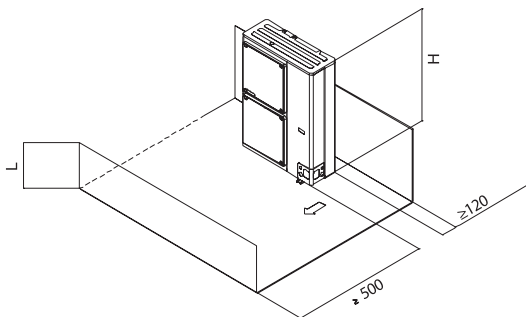

Figure 15
- a. Single unit installation (see Figure 15)